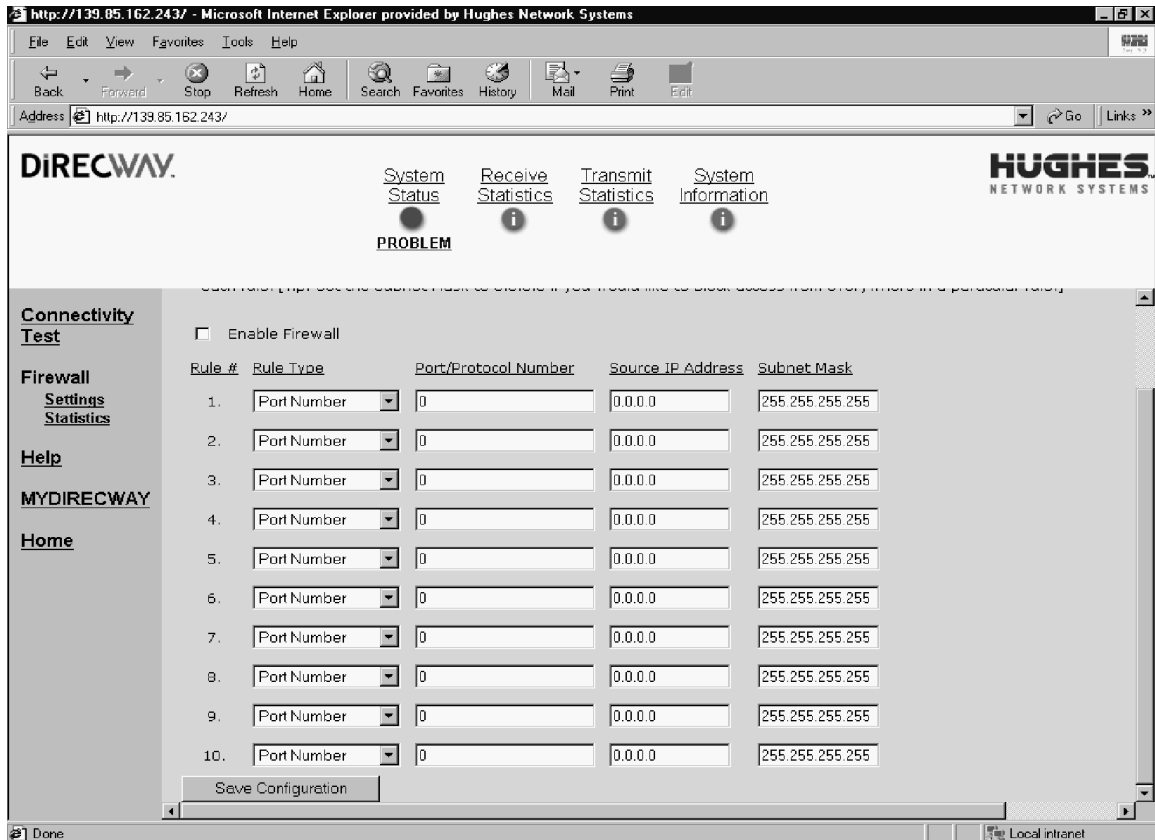

Figure 41: Firewall Settings
1. Open the User Interface and go to *Home*→*Firewall*→*Settings*. The screen in Figure 41 appears.